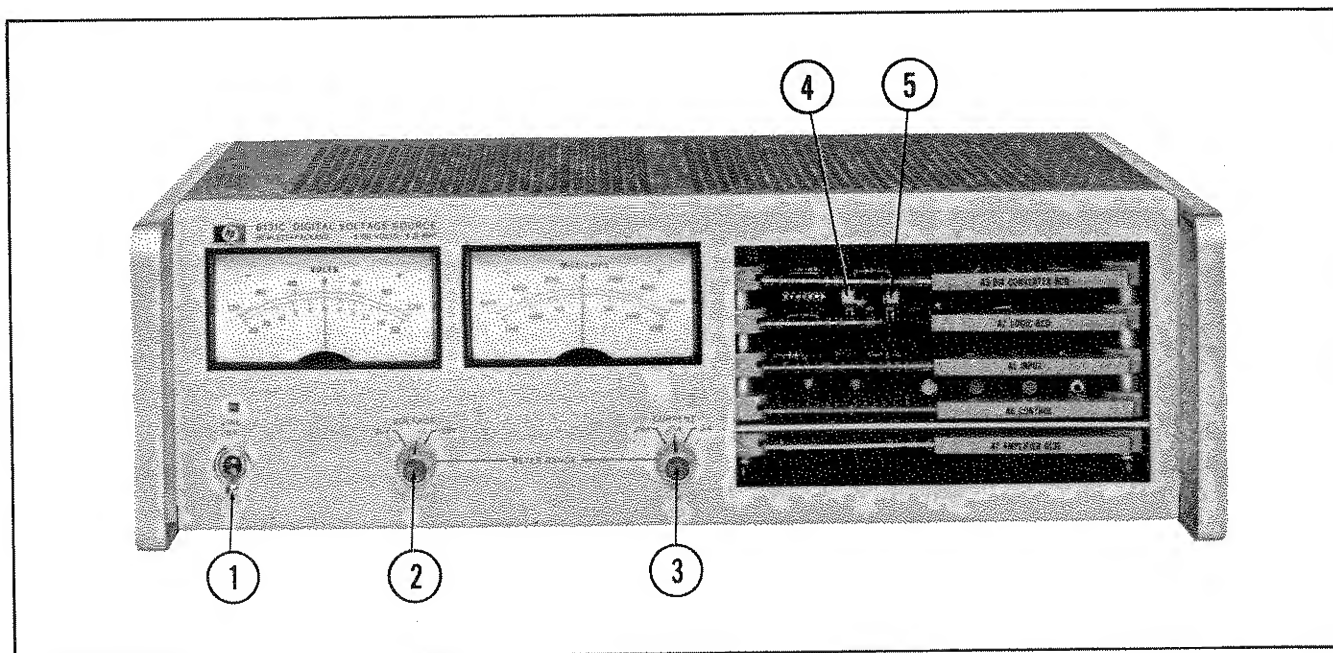

Figure 3-2. Operating Controls and Indicators
3-4 To turn on the unit, set the LINE switch (item ① in Figure 3-2) to ON. The pilot light directly above the LINE switch should light. Fuse 1 (2A at 115Vac or 1A at 230Vac) protects the main power supply.
3-18 With the STORAGE switch ④ (Figure 3-2) in the STORE position, the voltage, sign, range, and current latch program data are stored when the gate is received from the computer. In the DISABLE position, indicator DS1 ⑤ lights and the data are processed as soon as they are received.